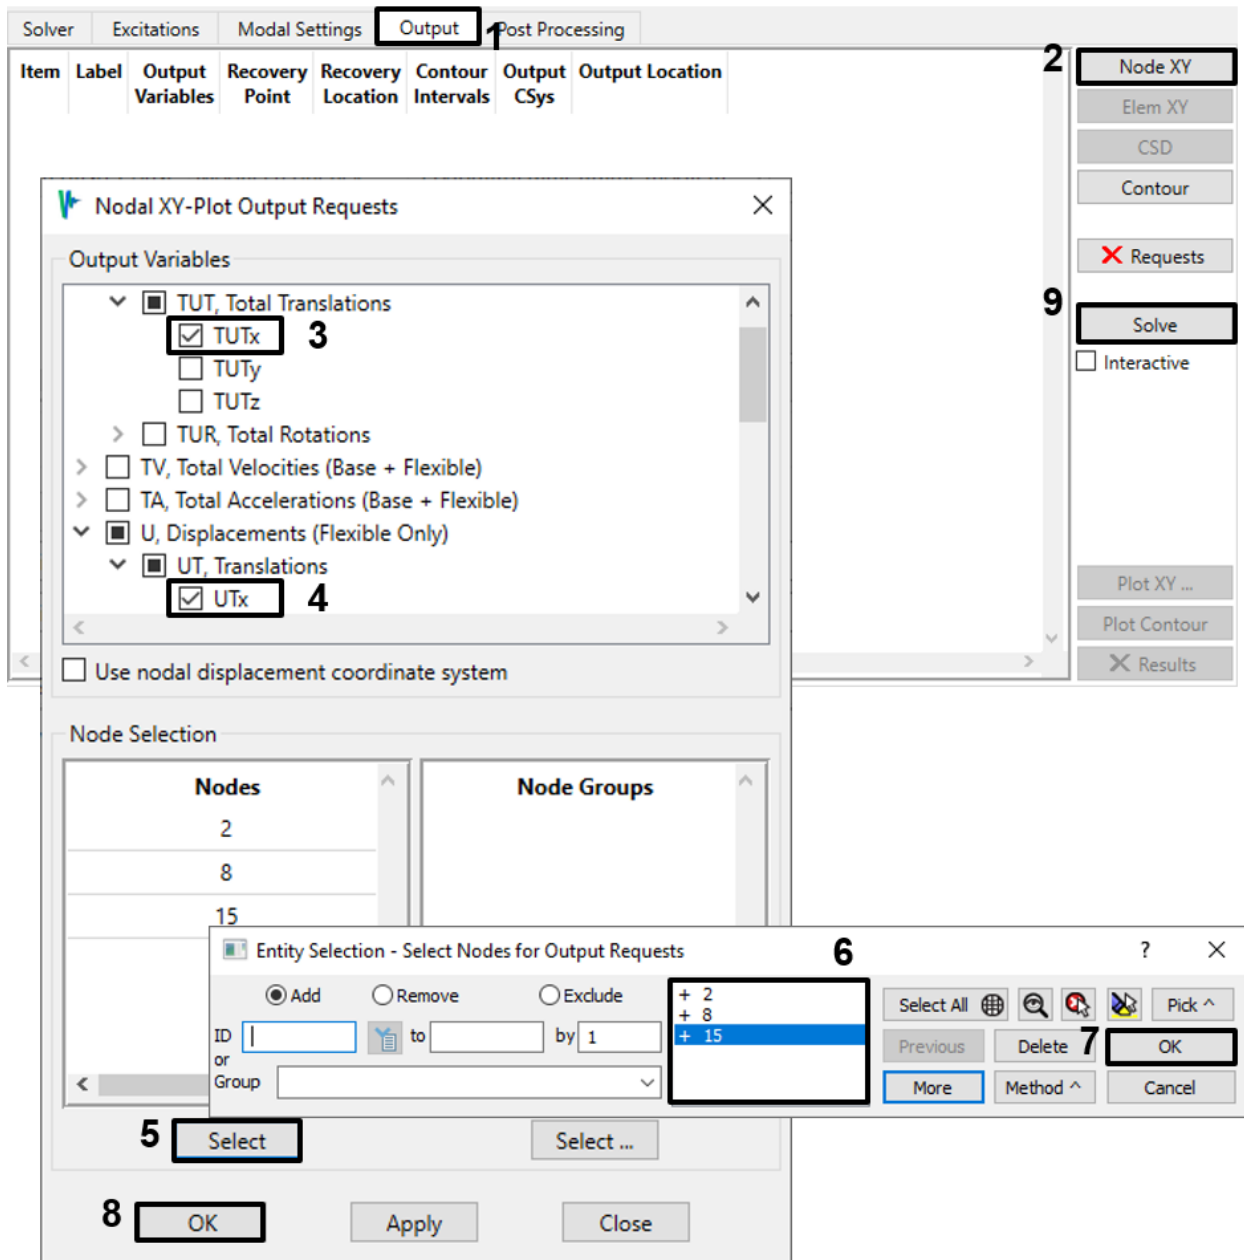

Figure 4-32. Request both flexible and total nodal X-translation plots.
- On the *Output* tab, create a Node XY output request for flexible and total X-translations (TUT_x and Utx) for the center base (node 2), center second floor (node 8) and upper right corner (node 15), as shown in Figure 4-32.